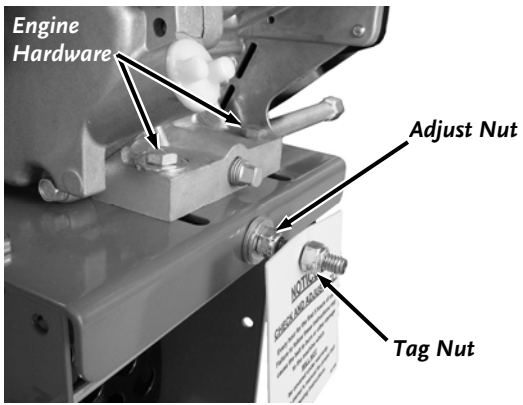

Figure 16
6. Loosen the four Engine Bolts using two 1/2" Wrenches (**Figure 16**).